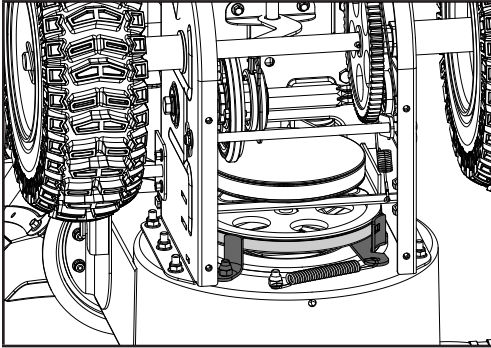

Figure 29
8. Ensure belt is seated below the belt guide on the idler pulley pivot arm (Fig. 29).